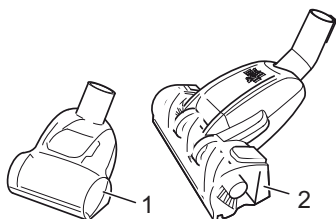

Fig. 8
■ **"Fellino" mini turbo brush (Fig. 8/1):** is used to vacuum *non-sensitive* carpets, runners, mats, and the like.
■ **"Fello" pet hair turbo brush (Fig. 8/2):** is used to vacuum *non-sensitive* upholstery, runners, mats, and the like.